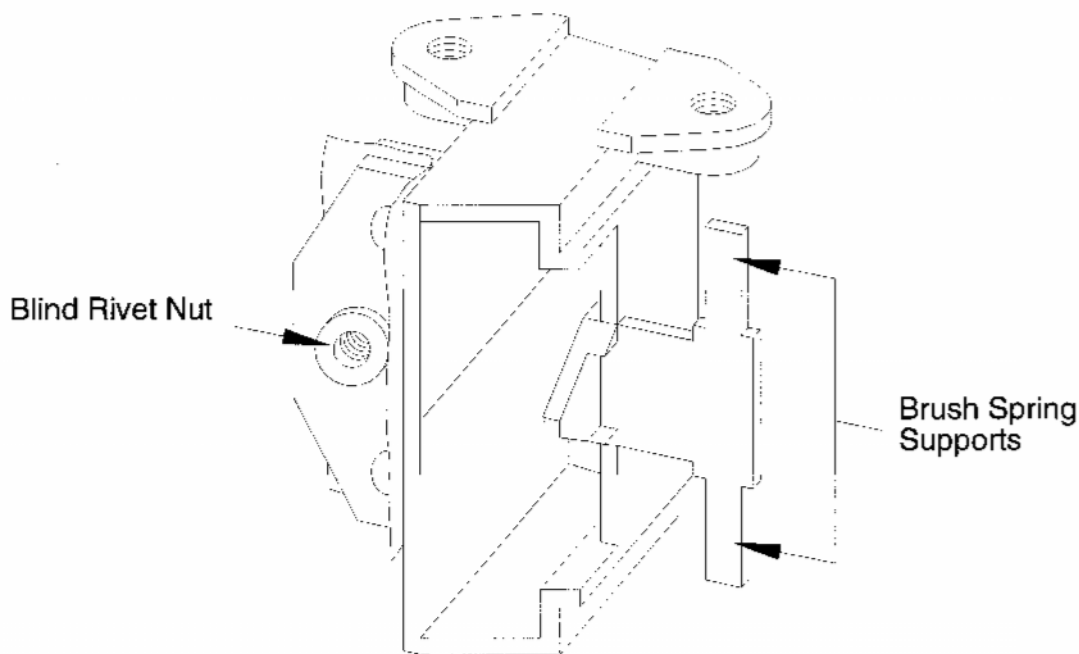

Figure 7 - Inspecting the Brush Holder Assembly
- (1) Visually examine all exposed surfaces for cracks.
- (2) Hand tighten a machine screw into the blind rivet nut in the brush holder assembly to make sure that the self-locking feature is functional. The machine screw should bind in the blind rivet nut before it is fully engaged. (See Figure 7).
- (3) Visually examine the brush holders, including the brush spring supports, for cracks or warping.
- (4) Visually examine the brush holders, including the center support, for physical damage such as discoloration or burning caused by electrical arcing.
- (5) Visually examine the brush springs for cracks, warping, discoloration or melting.
- (6) Be sure the hardware that attaches the brush holders to the anti-drive end end bell is secure.
- (7) Be sure the hardware that attaches the anti-drive end end bell to the stator and housing assembly is secure.
- (8) If damage is found, the unit must be repaired or overhauled.
- (9) Re-install any removed parts.
- (10) Package and ship the unit to a repair station, authorized for electrical accessory overhaul. Include a brief description of the damage.